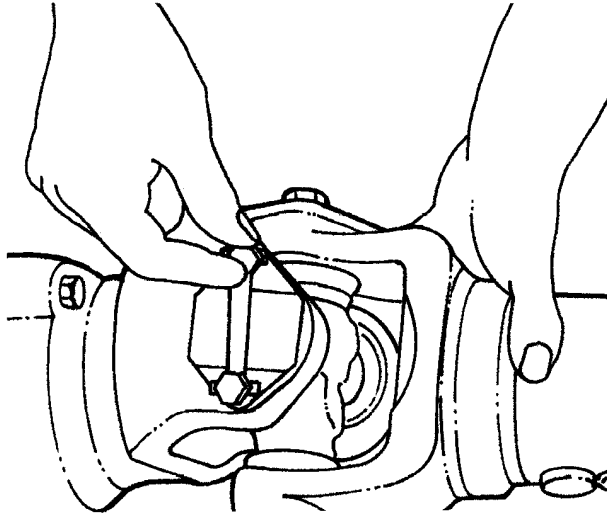

Figure 24 Assemble Lockstrap and Bolts to Yoke Lug
6. When the bearing cap is seated, line up the cap holes with the holes in the yoke. Assemble the lockstrap (if equipped) and bolts to the yoke lug (Figure 24).